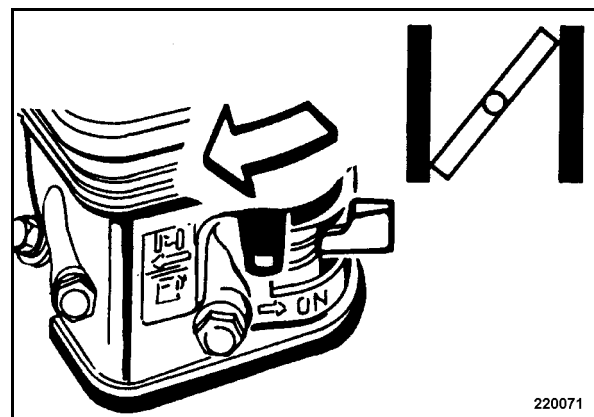

Fig. 23
- If the engine stops again after approx. 3 to 5 seconds, close the choke again with the lever (Fig. 23) and repeat the starting process.